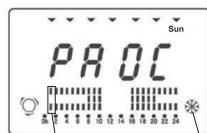

Fig. 17
- Operation in Anti-frost mode on Tuesday from 0:00 to 01:00 hours in the morning (fig. 17)